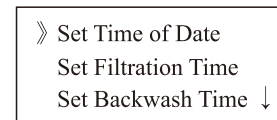
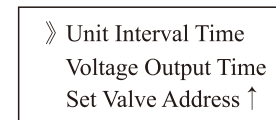
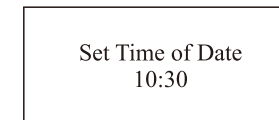
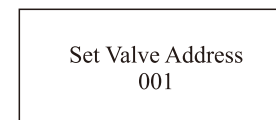

Figure 6-1
Figure 6-2
Figure 7
Figure 12
Confirm the button is unlocked in the service state, and press to enter the foreground menu, as Figure 6-1 and Figure 6-2 shows. Press or to select the required setting parameter, and press the to enter the parameter setting interface as Figure 7- Figure 12 shows, then to make modifications to the factory default values. The operation method is similar to the background parameter setting.
A. Current time setting, as shown in Figure 7. When the hour value of current time is flashing, press or to set the value of hour. Press to confirm, and then the minute value of current time is flashing, press or to set the value of minute. Press again to save the setting and return to the menu; if press , it will not save the setting and return to the menu; if the power outage is more than 3 days, 12:12 will continue to flash when power on, which indicates that the current time should be reset.
F. Valve address setting, as shown in Figure 12. The setting method is the same as the filtration working time. It is suitable for setting multiple controllers with RS-485 communication address.